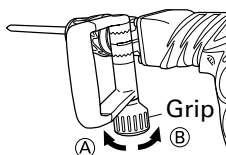

Fig. 5
- (1) Loosen the handle by turning the grip in the direction of ① as shown in Fig. 5.